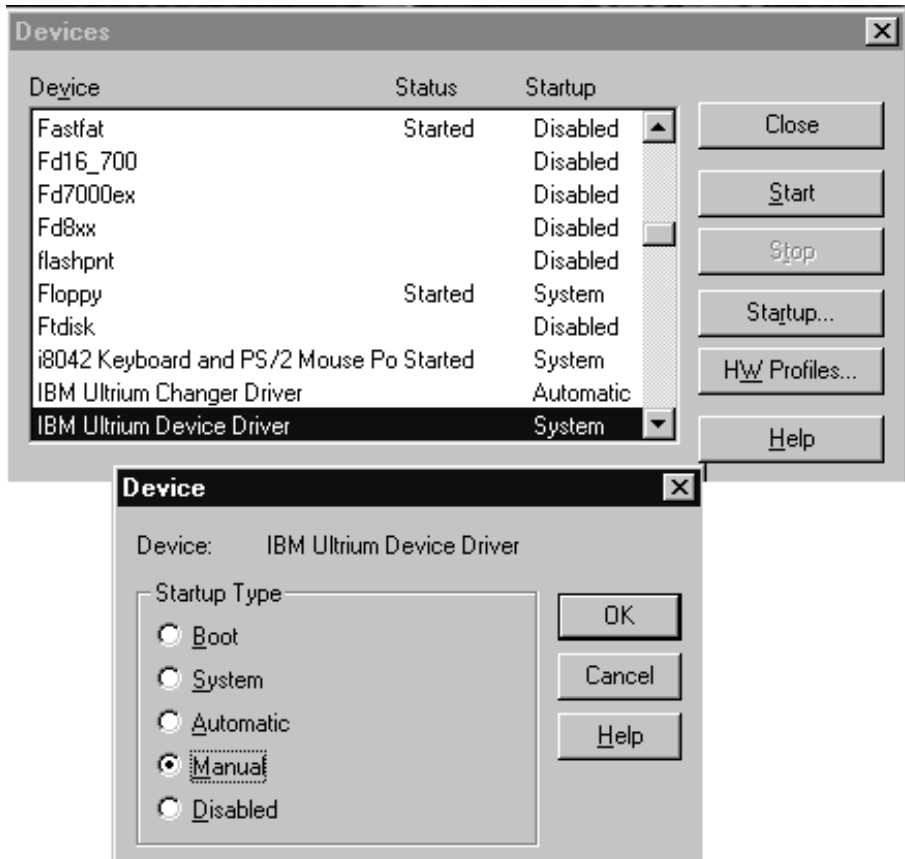

Figure 21. Manual Starting and Stopping Menu
5. Select the driver, click **Startup...**, select **Manual**, then click **OK**. See Figure 21.